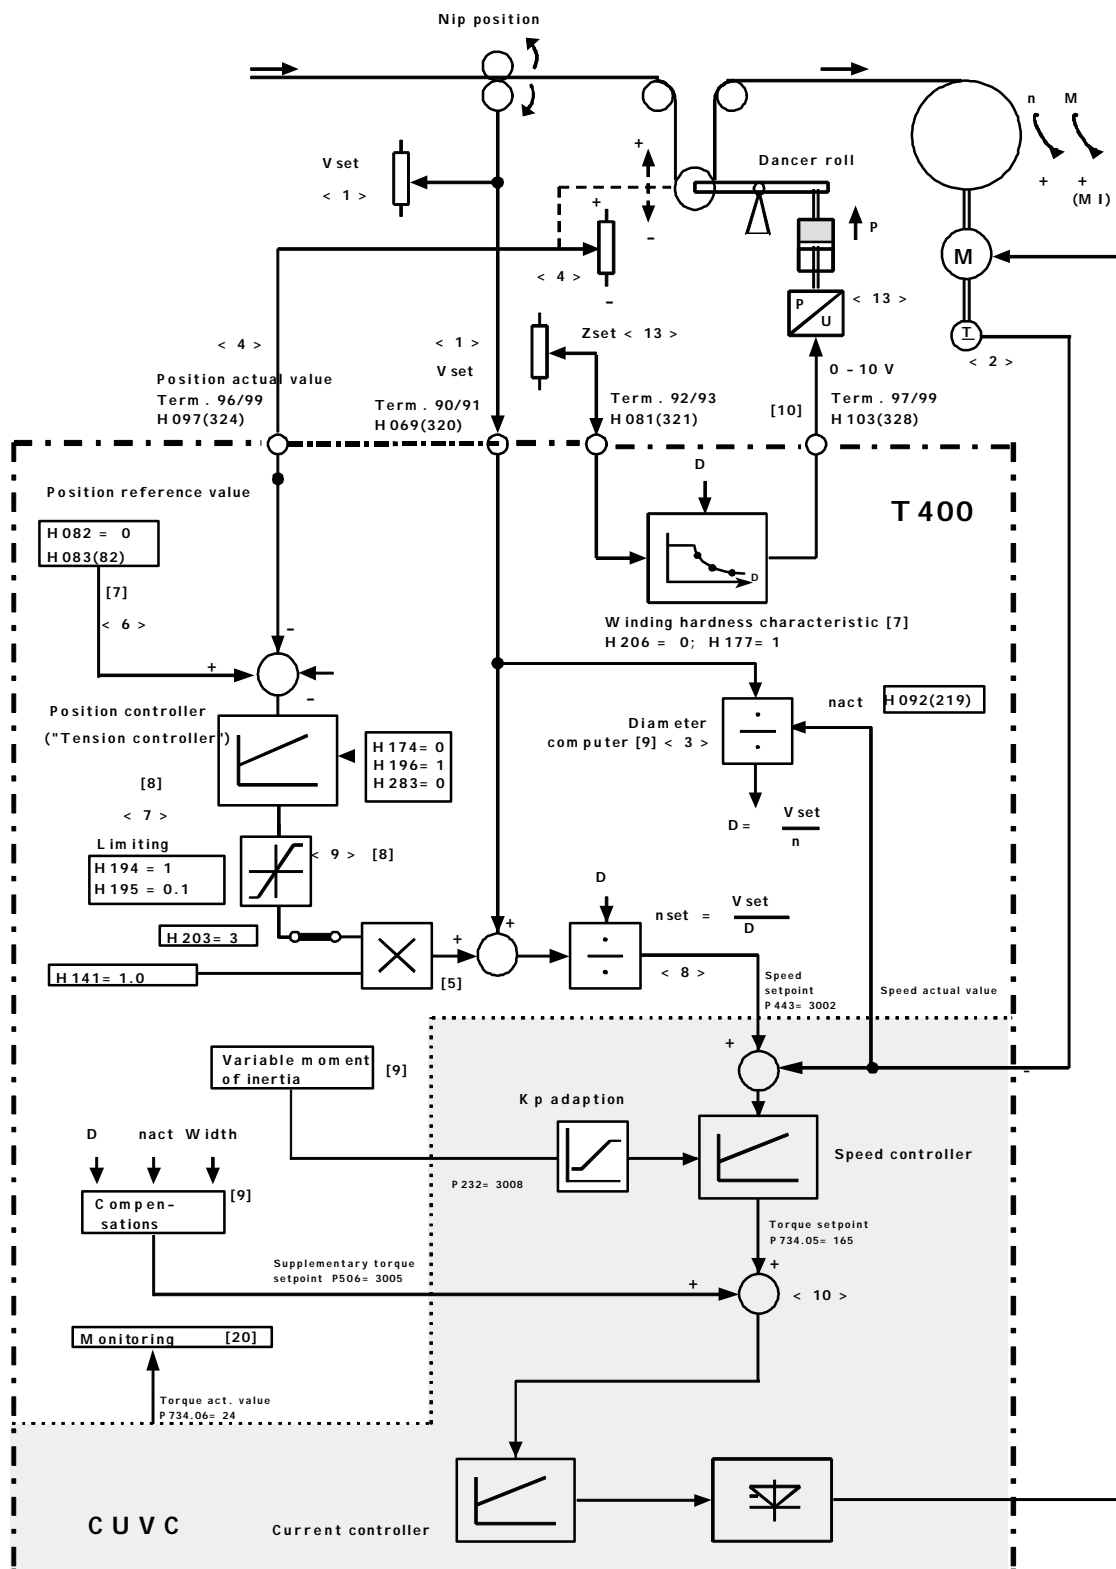

Fig. 4-8 Winder with dancer roll, closed-loop speed correction control
- Note** An example of a winder with dancer roll is shown in Fig. 4-8.
For a dancer roll with a selectable support force, as shown in Fig. 4-8, a tension setpoint can be entered at the T400 technology module, in order to be able to use its winding hardness control (open-loop) (H206=0). The tension setpoint can be still controlled using a ramp-function generator with H284=0. The output of the winding hardness characteristic can then be output, for example, at terminals 97/99, and they can then serve as setpoint for the pneumatic adjustable dancer roll support.